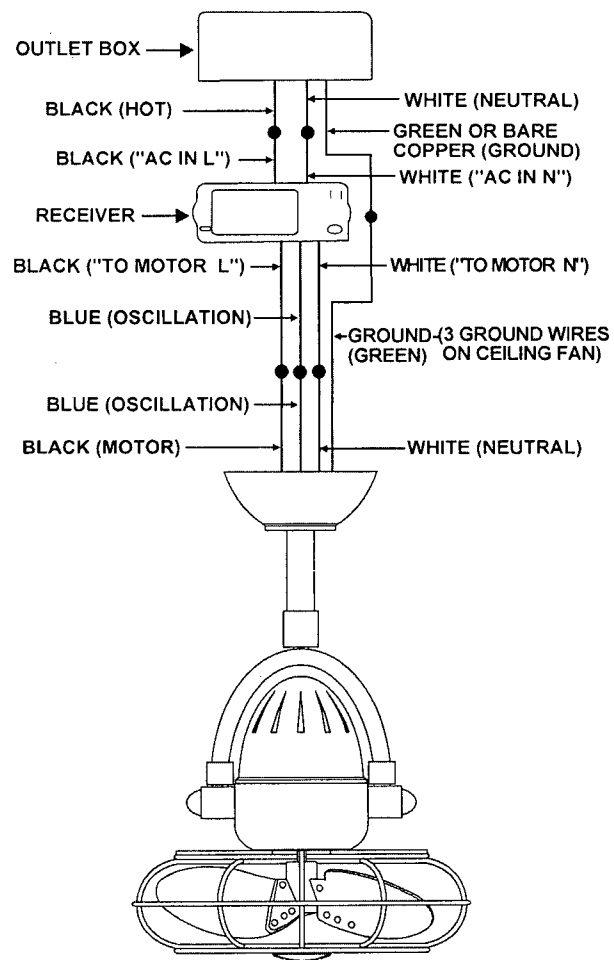

Figure 12
C. Connect the BLUE wire from the fan to the BLUE wire marked "oscillation" from the Receiver. Proceed to secure all wire connections with the plastic wire nuts provided. (Fig. 12)
B. Connect the BLACK wire (Hot) from the outlet box to the BLACK wire marked "AC in L" from the receiver. Secure all wire connections with the plastic wire nuts provided. (Fig. 12)
4. If your outlet box has a GROUND wire (Green or Bare Copper) connect this wire to the Hanger Ball and Hanger Bracket Ground wires. If your outlet box does not have a Ground Wire, then connect the Hanger Ball and Hanger Bracket Ground Wires together. Secure wire connection with the plastic wire nut provided. (Fig. 12)